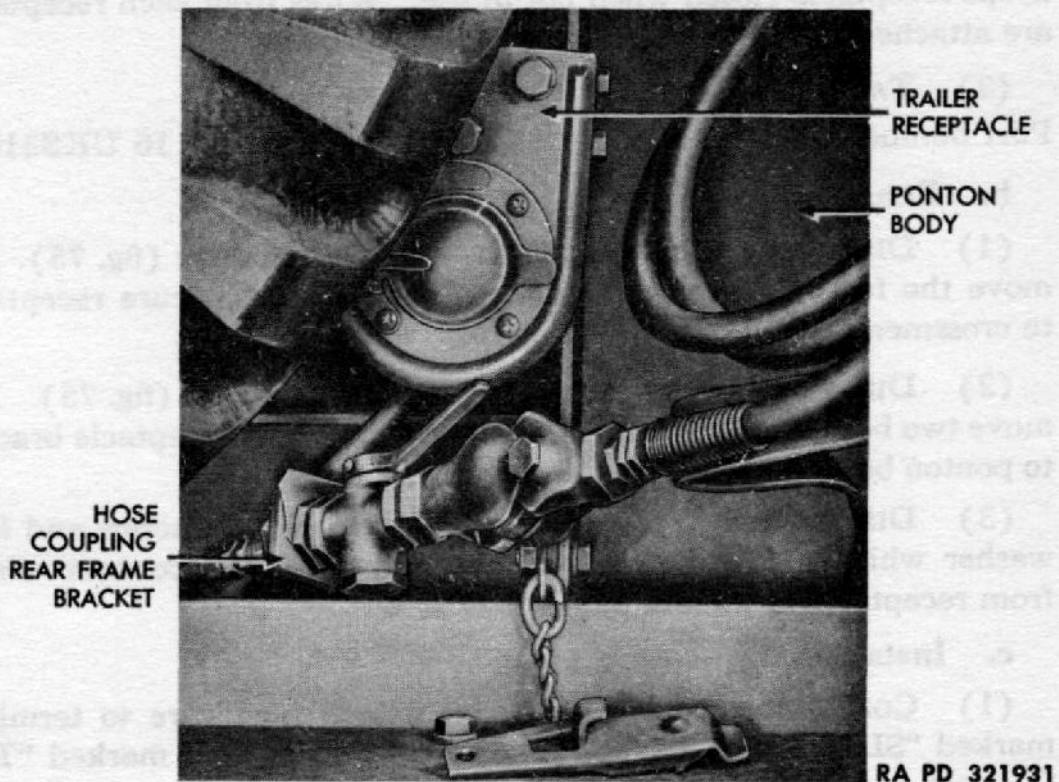

Figure 75 - Trailer Receptacle
(1) **DESCRIPTION.** Two trailer light receptacles are used. One, for use with semitrailer, is attached to a bracket on the rear of the ponton body (fig. 75). A second receptacle, for use with vehicle towed by pintle hook, is attached to frame rear crossmember. Receptacles are of the female type with metal contact blades. A spring metal cover
(1) **DISENGAGE RECEPTACLE FROM CROSSMEMBER (fig. 75).** Remove the four nuts, lock washers, and bolts which secure receptacle to crossmember.
(2) **DISENGAGE RECEPTACLE FROM PONTON BODY (fig. 75).** Remove two bolts, lock washers, and nuts which attach receptacle bracket to ponton body.
(3) **DISCONNECT WIRING (fig. 75).** Remove the screw and lock washer which secure back cover to receptacle. Disconnect wiring from receptacle terminals.
(1) **CONNECT WIRING (fig. 75).** Attach blue wire to terminal marked "SL." Connect black-yellow wire to terminal marked "TL." Connect ground wire to terminal marked "GR." Position back cover to receptacle. Secure with the lock washer and screw.
(2) **ATTACH RECEPTACLE TO CROSSMEMBER (fig. 75).** Position receptacle on crossmember. Secure with the four bolts, lock washers, and nuts.
(3) **ATTACH RECEPTACLE TO PONTON BODY (fig. 75).** Position receptacle bracket on rear of ponton body to right of spare wheel. Secure with two bolts, lock washers, and nuts.